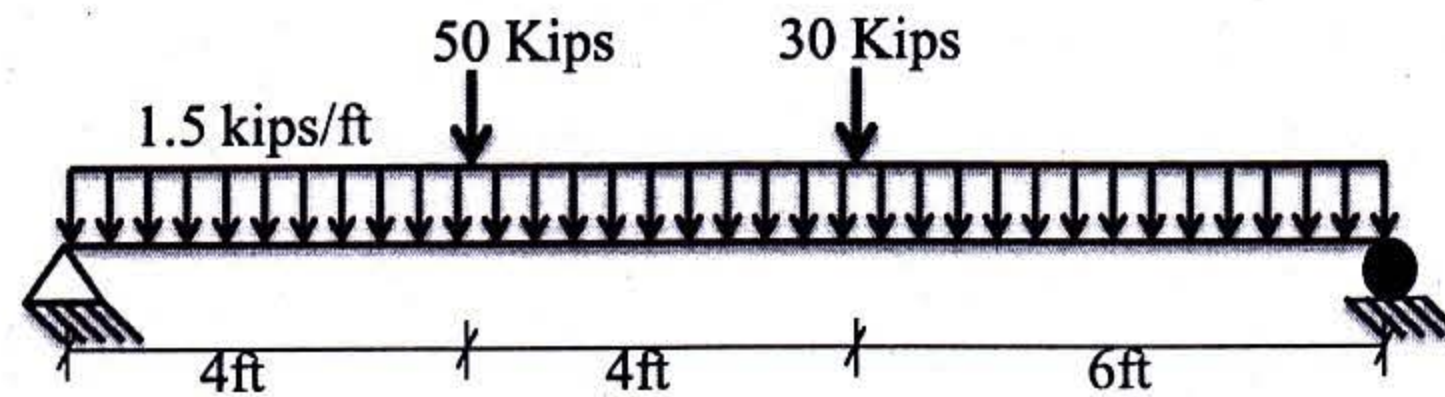

Figure: 06
6. Figure: 06 shows a simply supported rectangular beam with a cross-section having 16 in. width and an effective depth of 22 in. (20)